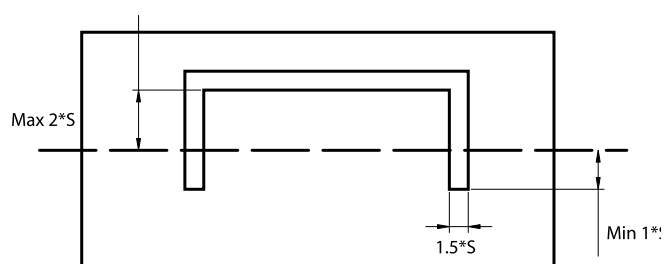

Fig. 4.3
- On a curved sheet, allow the tabs to protrude after bending. In this way, the sheet can still be positioned using the tabs. (Fig. 4.3)